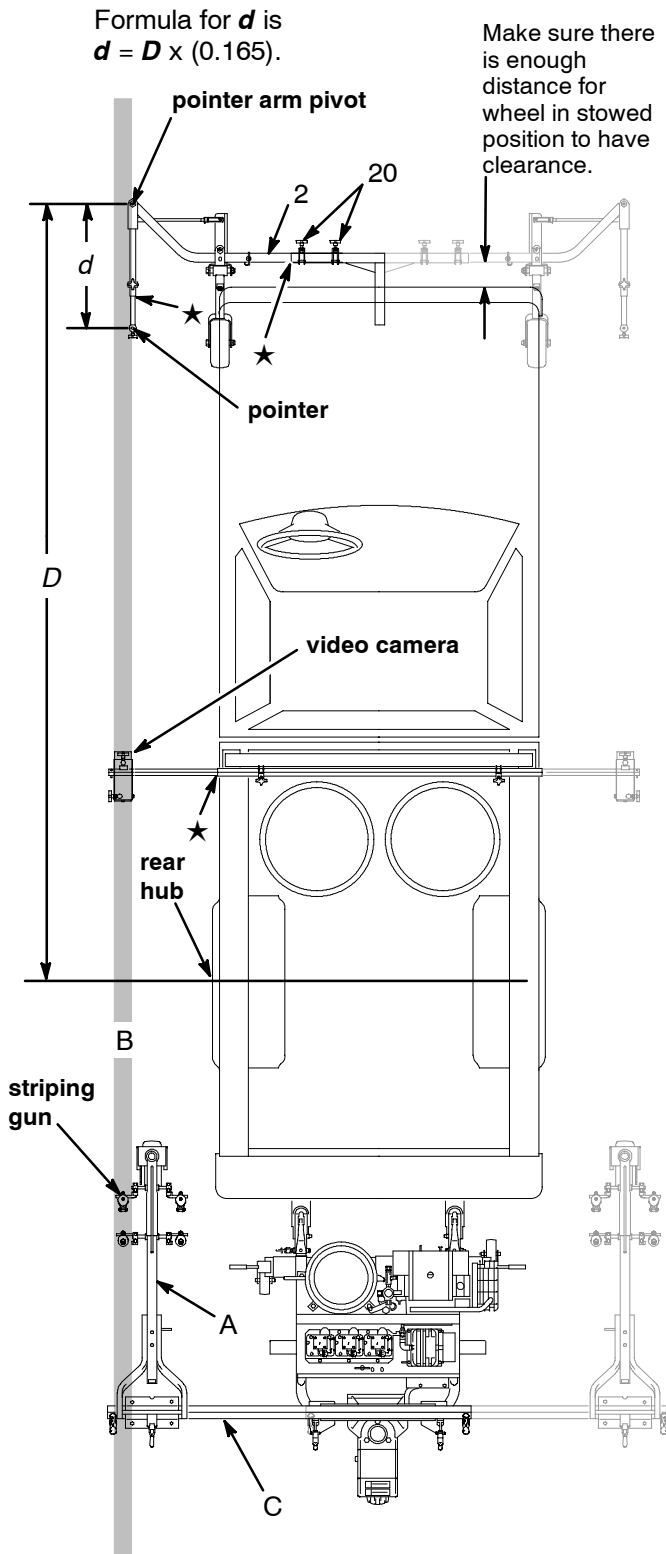

Fig. 6
1. Make sure RoadLazer striping gun boom arm (A) is fully extended to end of main beam (C), and front pointer system crossbar frame (2) is extended, as shown in Fig 6.
2. Drive truck forward along an existing straight line (B), and get pointer and striping gun visually lined up along the line, as shown in Fig 6.